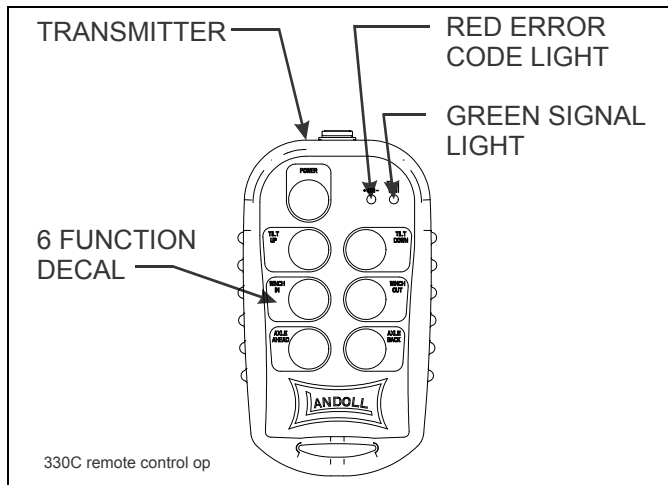

Figure 3-7: Remote Control Transmitter
- A wireless six function radio remote control is available (See **Figure 3-7.**)